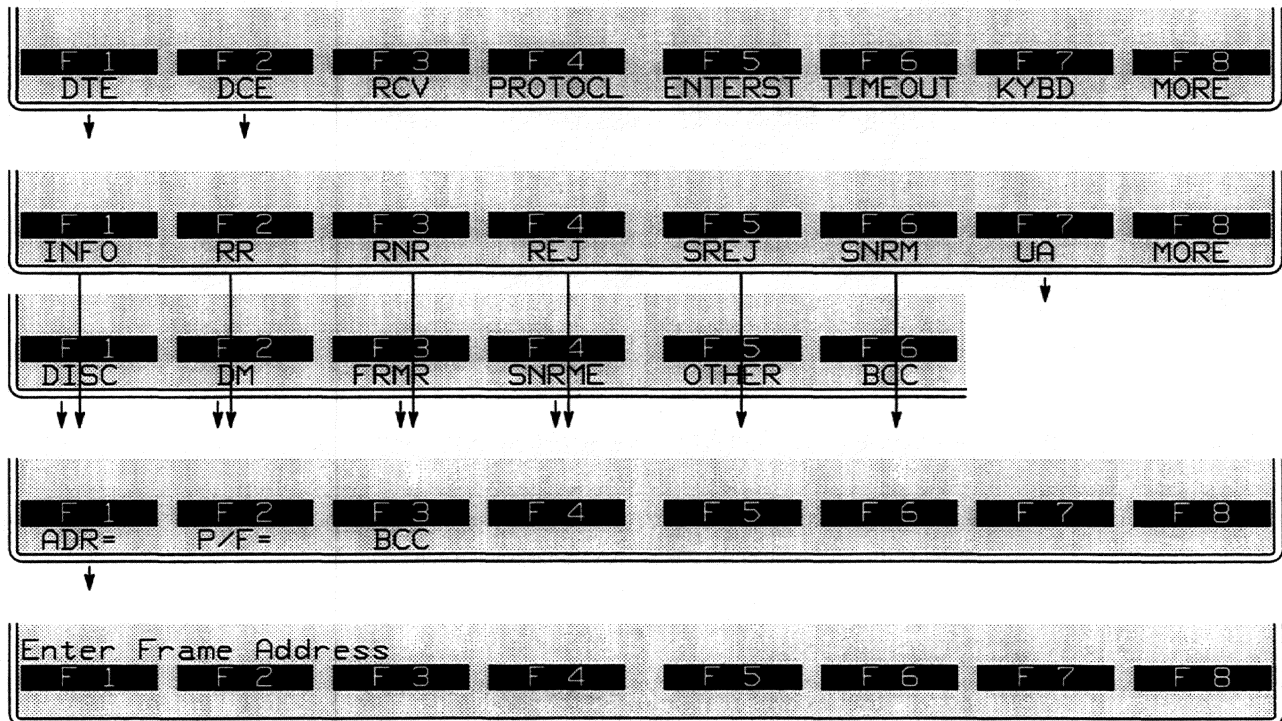

Figure 37-11 The hex value of the address byte is entered as two alphanumerics for *all* frame types.
5. *Address.* An address condition may be added to INFO, supervisory, unnumbered, and OTHER conditions. Press the softkey for ADR=, shown in Figure 37-11. Then enter the hexadecimal address octet as two alphanumerics. The address octet 01, for example, appears as follows:
To bypass the ADR= selection (as well as the other options on the same rack of softkeys in Figure 37-11) press **DONE**.